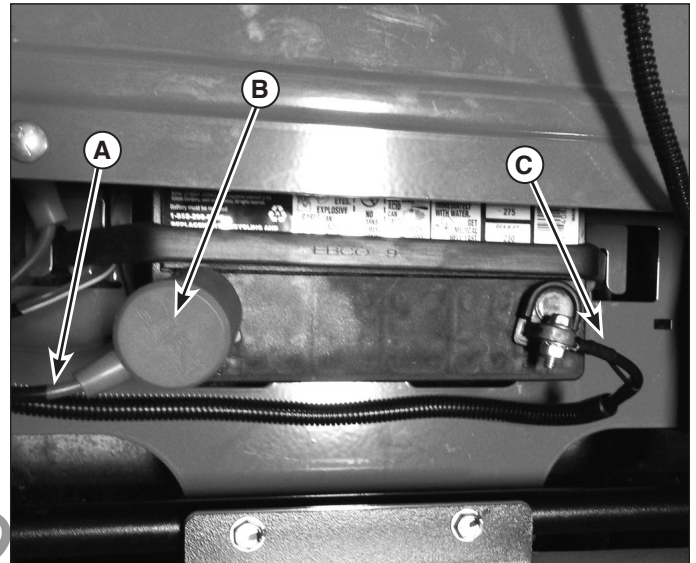

Figure 16
1. Disconnect the cables from the battery, negative cable first (**C**, Figure 16).